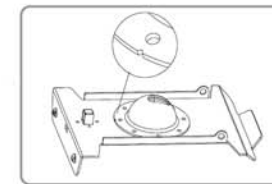
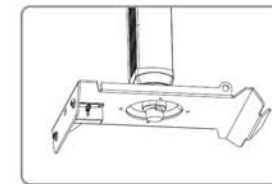
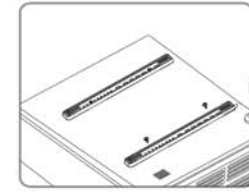
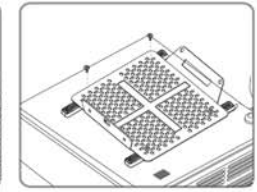

Figure 3
Figure 4
Figure 12
Figure 13
3 When the safety lock/release (9) is pushed down, the lower plate is released (fig 3 & fig 4)
4 Join the top projector plate (7) with the ball joint socket (5) (as can be seen in fig 3) with the tube using the ball head (5b) and the screw for the ball head (see fig 4). Attach the projector to the bottom plate (8) as shown in fig 5. If necessary, you can use the extension arms (fig 12 & fig 13).
1 Attach the extension arms (10) to the projector (fig 12). Use the appropriate screws (enclosed). Ensure that the padded side of the arms is placed on the projector.